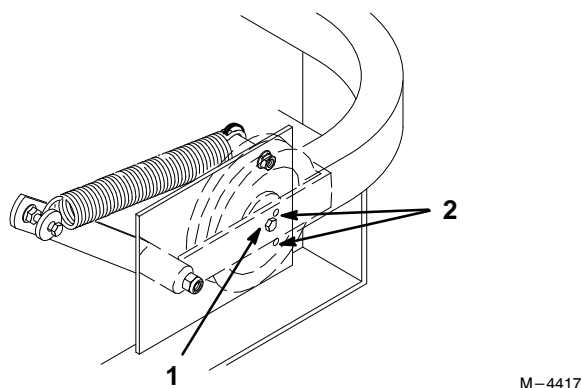

Figure 47
6. Check belt tension. The center bolt of spring loaded idler must be between the two alignment holes in left support plate (Fig 47).
Note: Check position of center bolt in Low Height of Cut. The center bolt must be at or below the top alignment hole. Check position of center bolt in a High Height of Cut. The center bolt must be at or above the lower adjustment hole (Fig 47).
8. Check belt tension again. The center bolt of spring loaded idler must be between the two alignment holes in left support plate (Fig 47). Adjust, if necessary, and tighten all hardware securely.